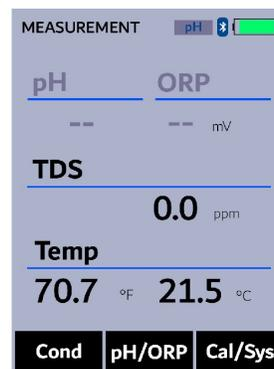

Figure 10. TDS measurement
4. TDS values will be displayed in the same area the conductivity reading was previously displayed (Figure 10).